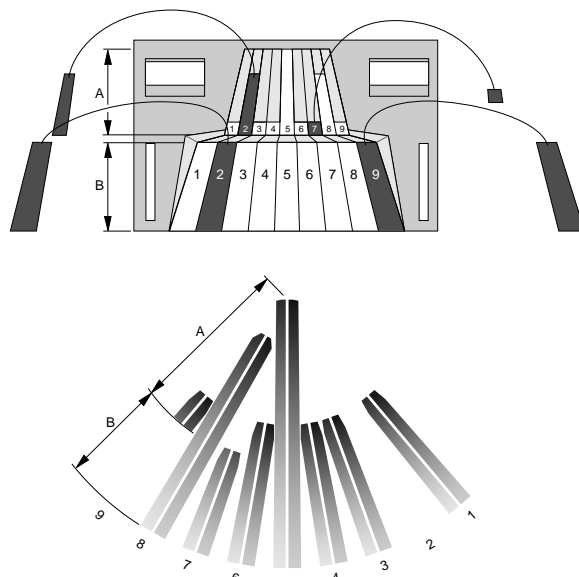

Figure 5. Adhesive labels
- Mask the appropriate mirror curtains with the adhesive labels provided. See the example shown in Figure 5. **Do not** use sharp objects to remove unwanted labels. If necessary, carefully peel the label off.